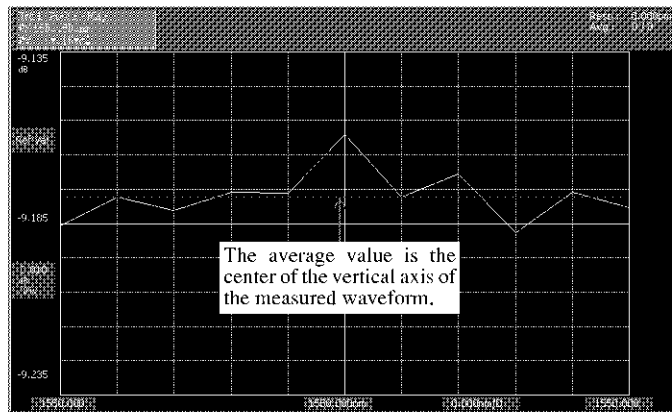

Figure 2-6 Reading Average Value of Magnitude Characteristic Linearity (POWER Measurement Mode)
17. After the measurement is completed, execute Auto Scale and read the average value of the waveform using the cursor, referring to Figure 2-6. Enter the obtained value into the corresponding column on the performance verification sheet as the “deducting 5 dB from the reference value”.